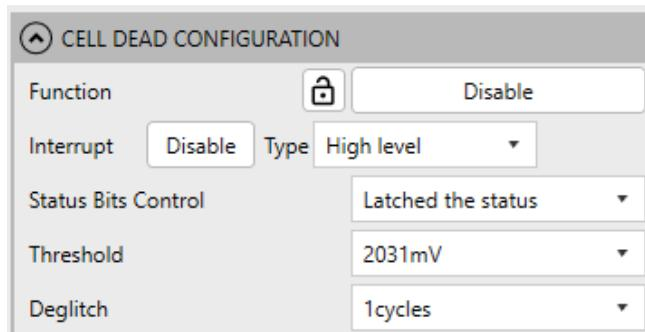

Figure 28: Cell Dead Configuration
24. Set the dead cell parameters (see Figure 28).